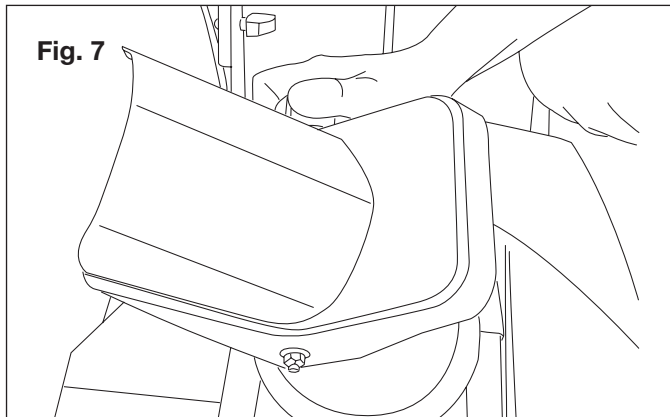

Fig. 7
3. Raise or lower the chute deflector to the desired height of the snow stream and tighten the knob (Fig. 7).